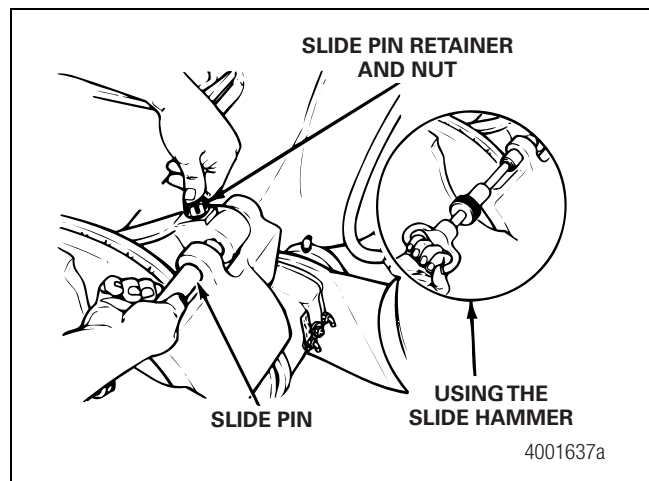

Figure 10.18
8. Push down the retainer and push in the slide pin. Figure 10.18. The retainer will snap out when the notches engage.